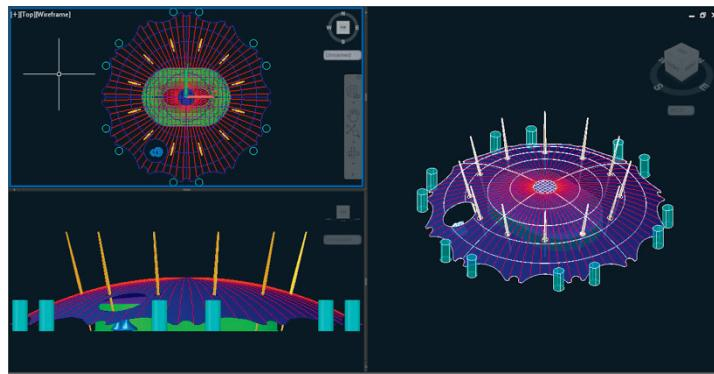

FIGURE 16.9 Three viewports, each displaying a different view and visual style
2. Click anywhere inside the lower-left viewport showing the front view to activate it. Open the in-canvas Visual Style Controls menu in this viewport and select Shaded. Click anywhere inside the viewport showing the top view to activate it. Open the in-canvas Visual Style Controls menu in this viewport and select Wireframe. Figure 16.9 shows the result.